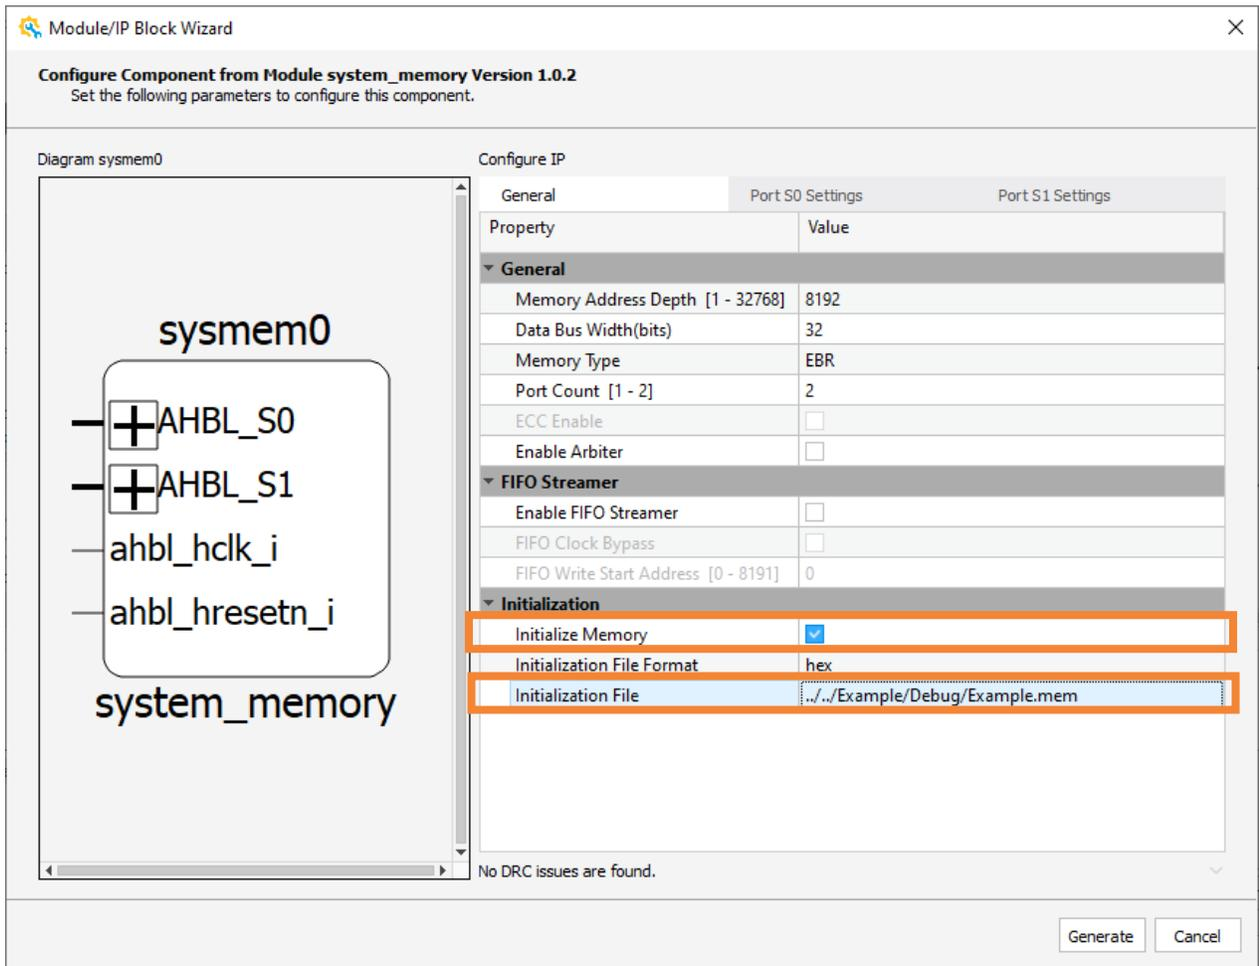

Figure 3.28. Configure Module System Memory
- Enable the checkbox for **Initialize Memory** for *system_memory* IP module from the **Initialization** area of the **General** tab, and set **Initialization File** generated from the corresponding C/C++ project (Figure 3.28).